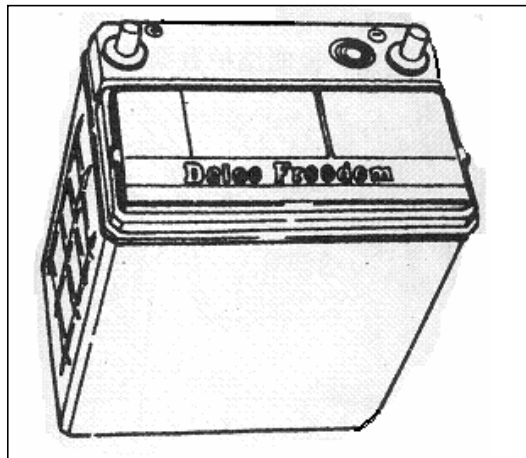
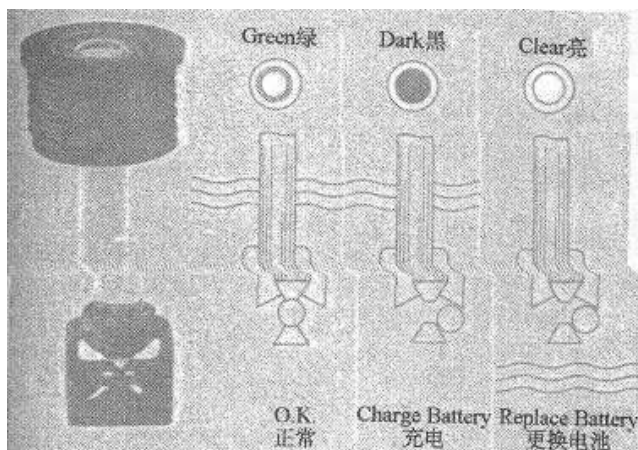

Fig. 20-1
Fig.20-2
- (1) The battery is free-service battery, shown in fig.20-1 .A densimeter used to estimate the status of the battery, shown in fig.20-2.
- (2) The densimeter shows green when the battery's capability over 65%. The battery works normally.
- (3) The densimeter shows black when the battery's capability less than 65%. The battery needs to be charged.
- (4) (3)If the densimeter looks limpidity, the battery is broken. Replace it.